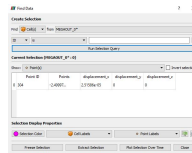

Figure 7: Plot selection over time
Step 6 Plot selection over time.(Figure.7)